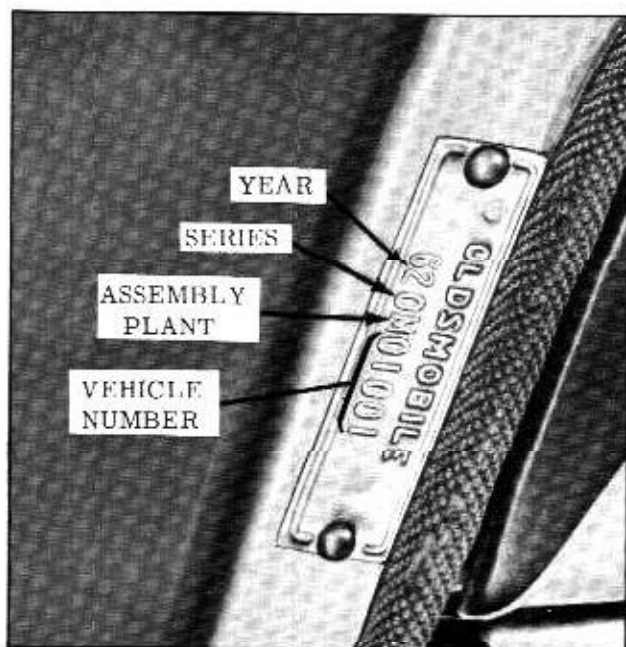

Fig. 1-1 Vehicle Identification Number Plate
The 1962 vehicle identification number plate is located on the left front door pillar as illustrated in Fig. 1-1. Each identification number is prefixed by three numbers and a letter. The first two numbers (62) indicate the year (1962). The third number designates the series.